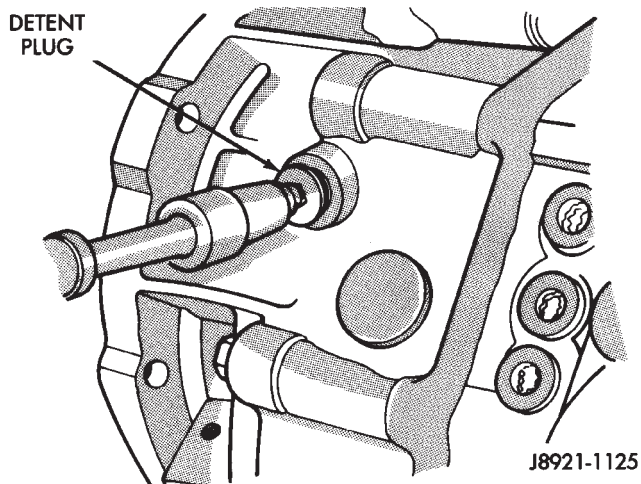

Fig. 122 Installing Detent Access Plug
(20) Install detent access plug (Fig. 122). Tighten plug to 19 N·m (14 ft. lbs.) torque.